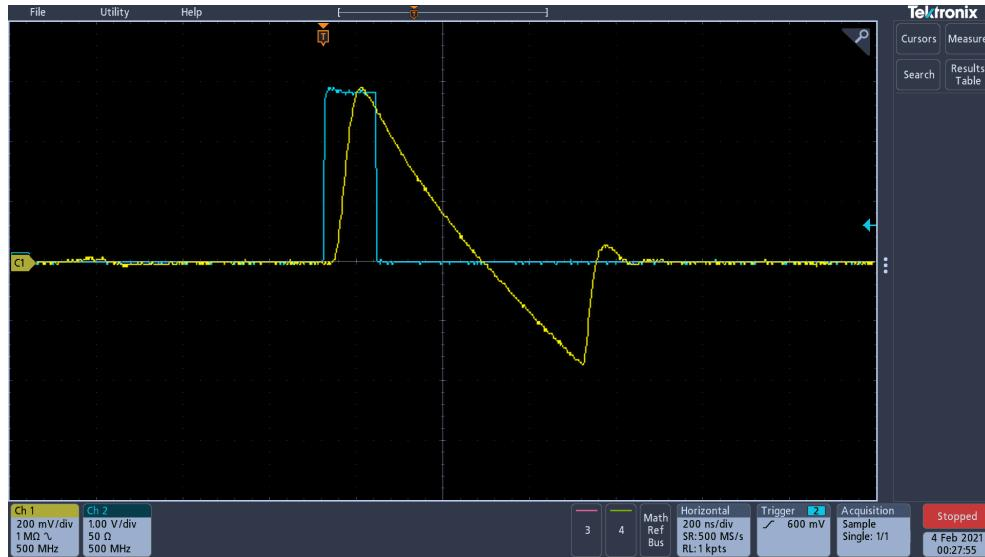

Fig. 10.37: Example of HG Slow Shaper output (yellow line) together with the LED driver trigger (blue line).
7. Select the "SLOW_HG" option for the "Analog Probe" parameter. The output is the **bipolar** signal from the Citiroc-1A HG Slow Shaper of the selected channel, similar to that shown in Fig. 10.37. The user is suggested to acquire the time difference between the rising edge of the trigger signal and the peak position of the Slow Shaper signal. The value of this ΔT will give a rough estimation of the minimum value to be set for the "Hold Delay" parameter in the Spectroscopy tab and to be used during physics run (see Sec. 10.8).